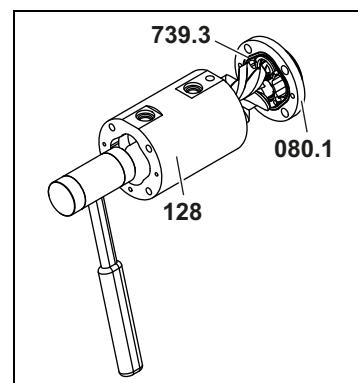

Fig. 13
2. Use light blows of a plastic tip hammer to drive the screw set together with the bearing cover **080.1** out of the measuring housing **128** and pull out, see Fig. 13, page 34.